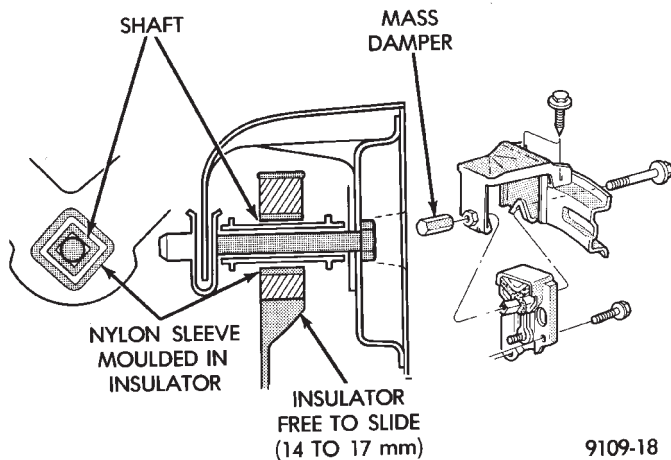

Fig. 3 Left Insulator Movement
- (1) Raise vehicle on hoist and remove left front wheel.
- (2) Remove inter splash shield.
- (3) Support the transmission with a transmission jack.
- (4) Remove the insulator thru bolt from the mount.
- (5) Remove the transmission mount fasteners and remove mount.
- (6) Reverse removal procedure for installation. Refer to (Fig. 3) for bolt tightening specifications.
- (7) Engine mount adjustment, Refer to Engine Mount Insulator Adjustment of this section.
Check and reposition right engine mount insulator (left engine mount insulator is floating type and will adjust automatically (Fig. 3). Adjust drive train position, if required, for the following conditions: